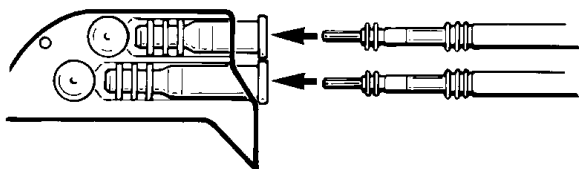

Figure 2. *Insert the lead(s) male connector into the pulse generator.*
3. Gently insert the male connector end of the lead(s) into the pulse generator connectors (see Figure 2). If necessary, use sterile water as an insertion lubricant.